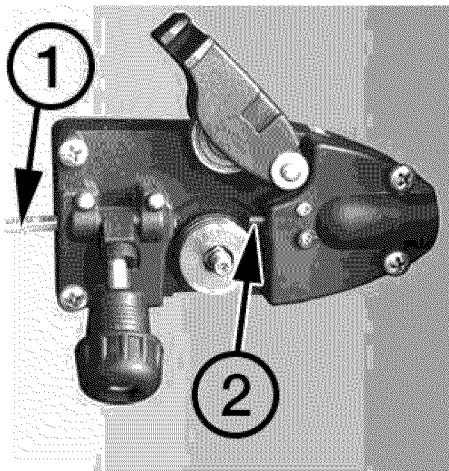

Fig. 6
2.10 Insert the wire into the inlet guide tube (Fig 6, 1), feed it across the drive roller and into the torch liner (Fig 6, 2) about six inches. Make certain that the welding wire is actually going into the torch liner. If not, the wire will jam up in the mechanism.